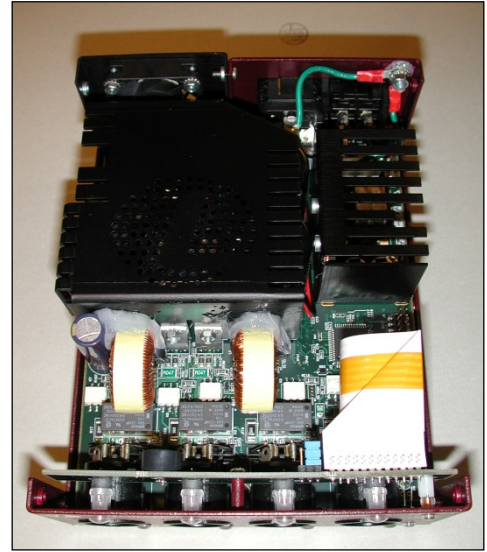

Figure 1: View of charger with open lid
2. Remove the 11 M3 screws holding on the lid to the base of the unit, (Figure 1)